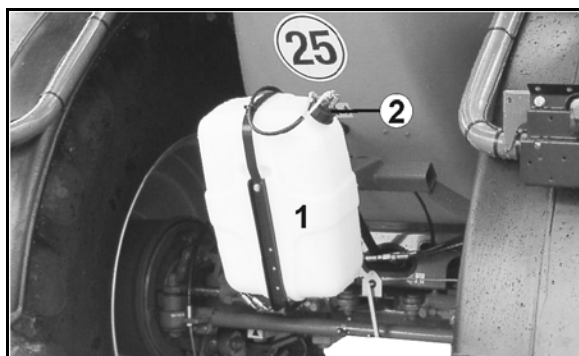

Fig. 123
- **Super-L-boom Fig. 123/...**
- (1) Foam concentrate tank
- (2) Slotted screw for foam concentrate tank
- (3) Compressor